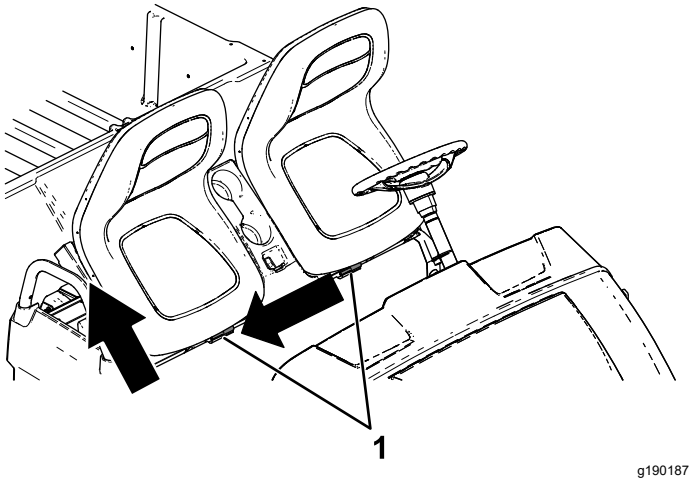

Figure 2
2. Slide the seat assembly to the side out of the pins, and lift the seat assembly upward (Figure 2).